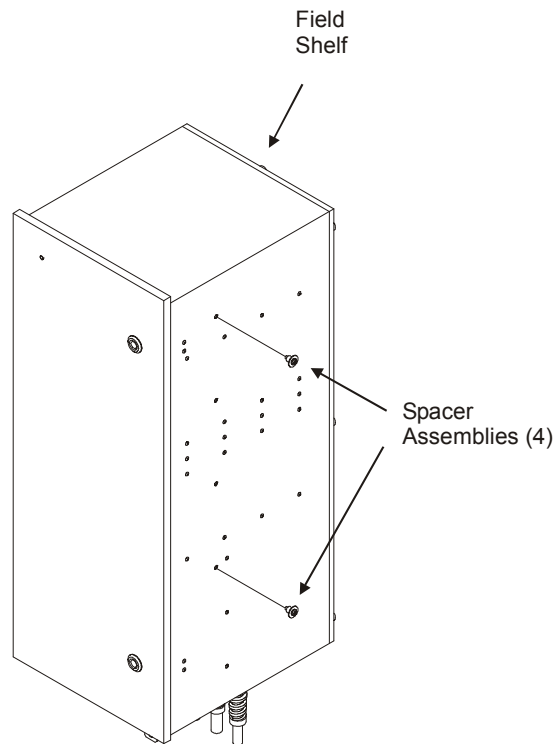

Figure 13. Preparing the Field Shelf
3. On each side of the Field Shelf, install two spacer assemblies (Figure 13). Ensure that the spacer assemblies are tightly secured to the Field Shelf.